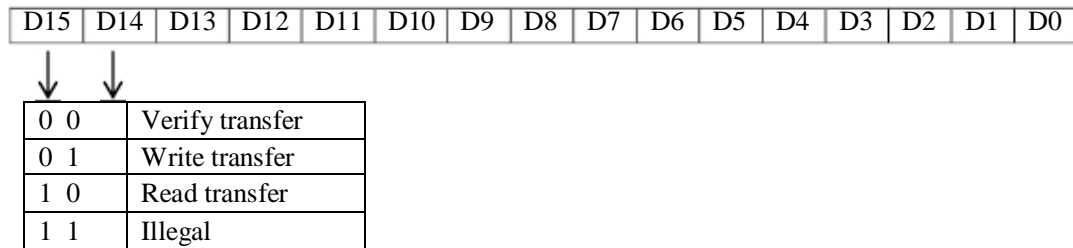

Figure 3.8: Count Register Format
- ☐ The count register is used to count the number of byte or word transferred by DMA. The format of count register is shown in figure 3.8.